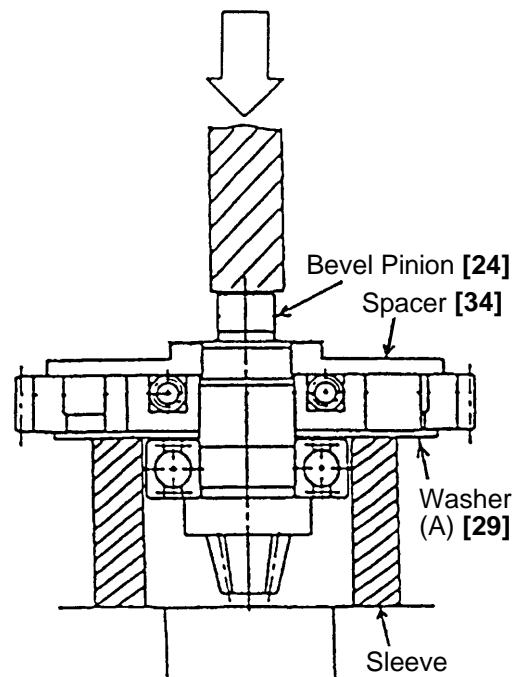

Fig. 16
The Slip Clutch Ass'y can be removed with the following procedure. First pull out the Ball Bearing 629VV **[35]** with a bearing puller (Code No. 970804), support the Washer (A) **[29]** on a sleeve as shown in Fig. 16 and release the Bevel Pinion **[24]** from the press-fitting by pushing it from the Spacer **[34]** side using a hand press. When removing the Gear Holder **[30]** from the Second Gear **[33]**, it is recommended to keep them inside a vinyl bag during disassembly to prevent the Springs (C) **[31]** and Needle Pins **[32]** from scattering.
Slide the Grip **[2]** fully in direction indicated by the arrow as shown in Fig. 16 and remove the Front Cap **[1]** (since the Front Cap is made of rubber, grasp its outer face and strongly pull it to remove). This allows the Grip, Needle Holder **[3]**, Retainer Spring **[9]**, Needle Rollers (2 pcs.) **[4]** and Spring Holder **[10]** to be separated from the Retainer Sleeve **[5]**.